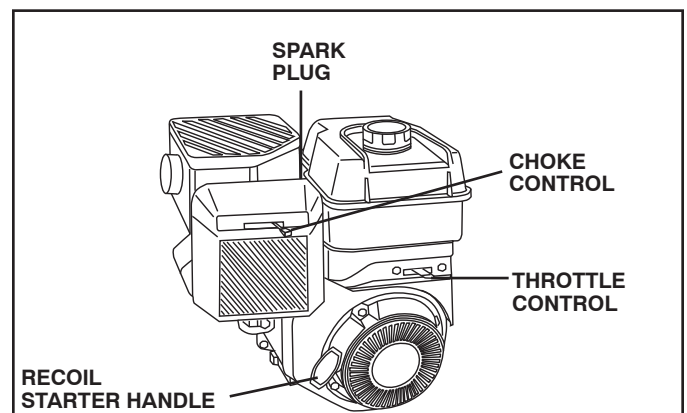

Fig. 8
TO START ENGINE (See Fig. 8)
- You will find tilling much easier if you leave a row untilled between passes. Then go back between tilled rows. (See Fig. 8) There are two reasons for doing this. First, wide turns are much easier to negotiate than about-faces. Second, the tiller won't be pulling itself, and you, toward the row next to it.